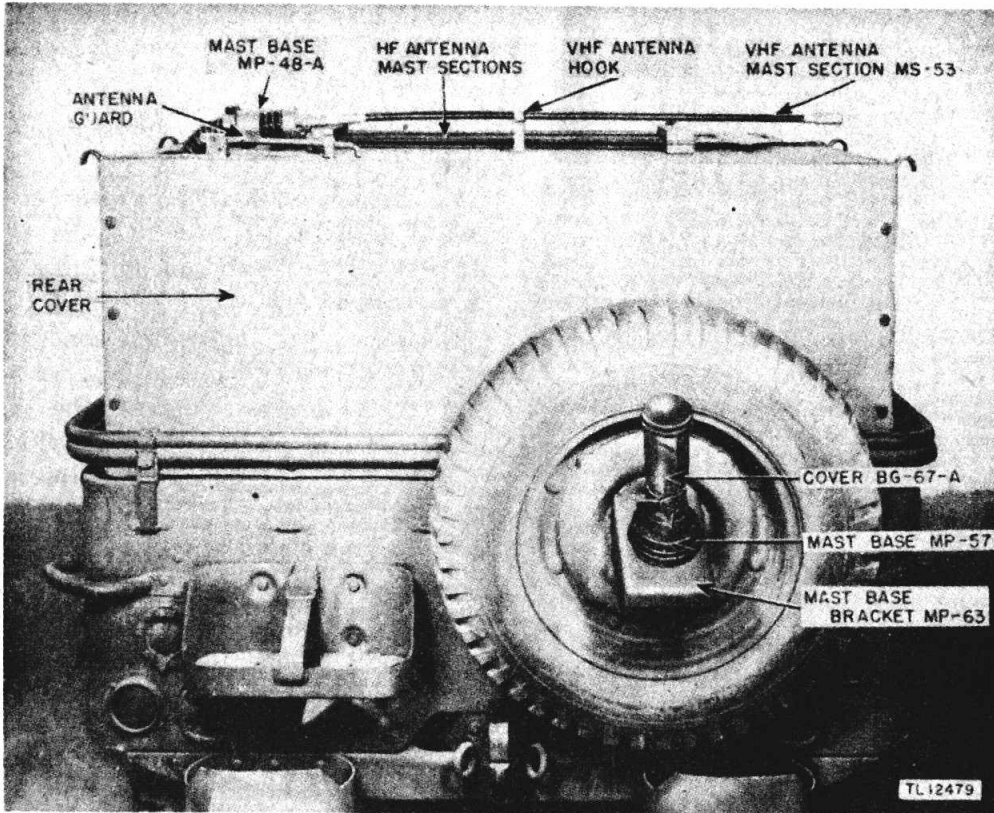
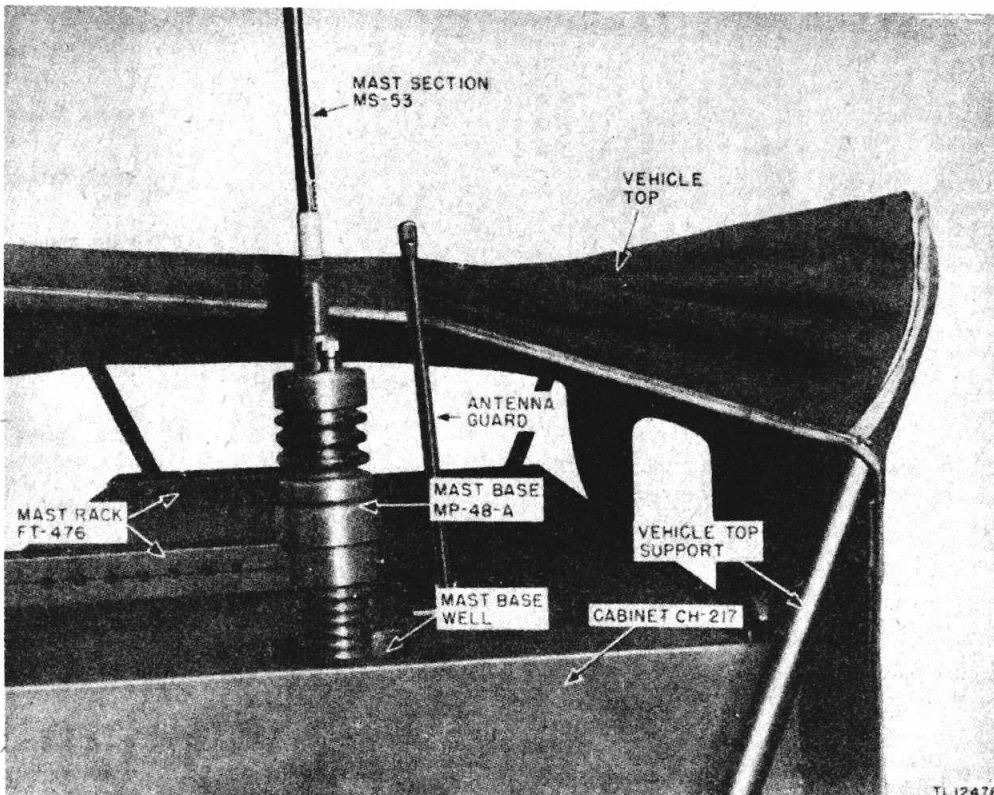

Figure 8. Radio Set AN/VRC-1, rear view, with Mast Base MP-48-A flexed 90° for lower clearance height.
Figure 9. Top of Cabinet CH-217 with antenna guard in position.
NOTE: When Mast Section MS-53 is installed in Mast Base MP-48-A and a lower clearance height is desired, the mast section may be held in a horizontal position by pulling the mast section down, flexing the mast base 90°, and engaging the mast section in the hook provided on top center of the Cabinet CH-217 (fig. 8). When vehicle top is used, raise the antenna guard to hold the top away from the v-h-f antenna (fig. 9).
7. MAST BASE MP-57 AND MAST BASE BRACKET MP-63. Remove the nuts and washers holding the spare wheel on the rear of the vehicle, and using same nuts and washers, secure Mast Base Bracket MP-63 to the spare wheel studs (fig. 8). Mast Base MP-57 is then assembled on the bracket (fig. 10).